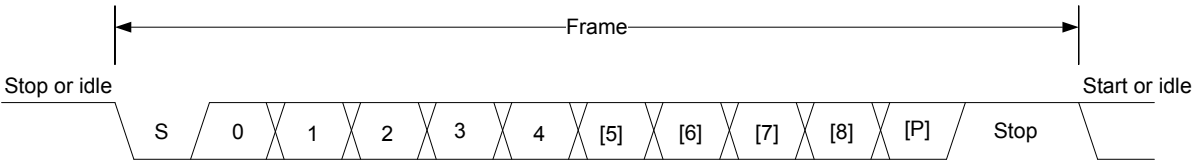

Figure 20.2. Frame Format
The frame format used in asynchronous mode consists of a set of data bits in addition to bits for synchronization and optionally a parity bit for error checking. A frame starts with one start-bit (S), where the line is driven low for one bit-period. This signals the start of a frame, and is used for synchronization. Following the start bit are 7 to 9 data bits and an optional parity bit. Finally, a number of stop-bits, where the line is driven high that indicates the end of the frame. An example frame is shown in Figure 20.2 Frame Format on page 673.